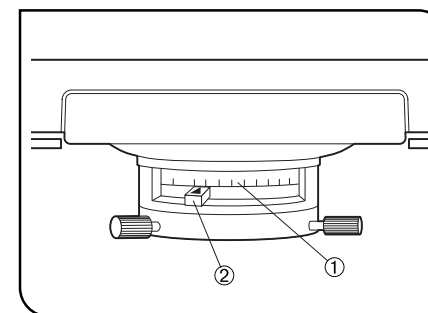

Fig. 23
**2 Aperture Iris Diaphragm (Fig. 23)**
- The aperture iris diaphragm determines the numerical aperture of the illumination system. Matching the numerical aperture ① of the illumination system with that of the objective provides better image resolution and contrast, and also increases the depth of focus.
When using a 100X objective, turn the aperture iris diaphragm knob ② all the way to 0.9 on the scale. (Fig. 23)